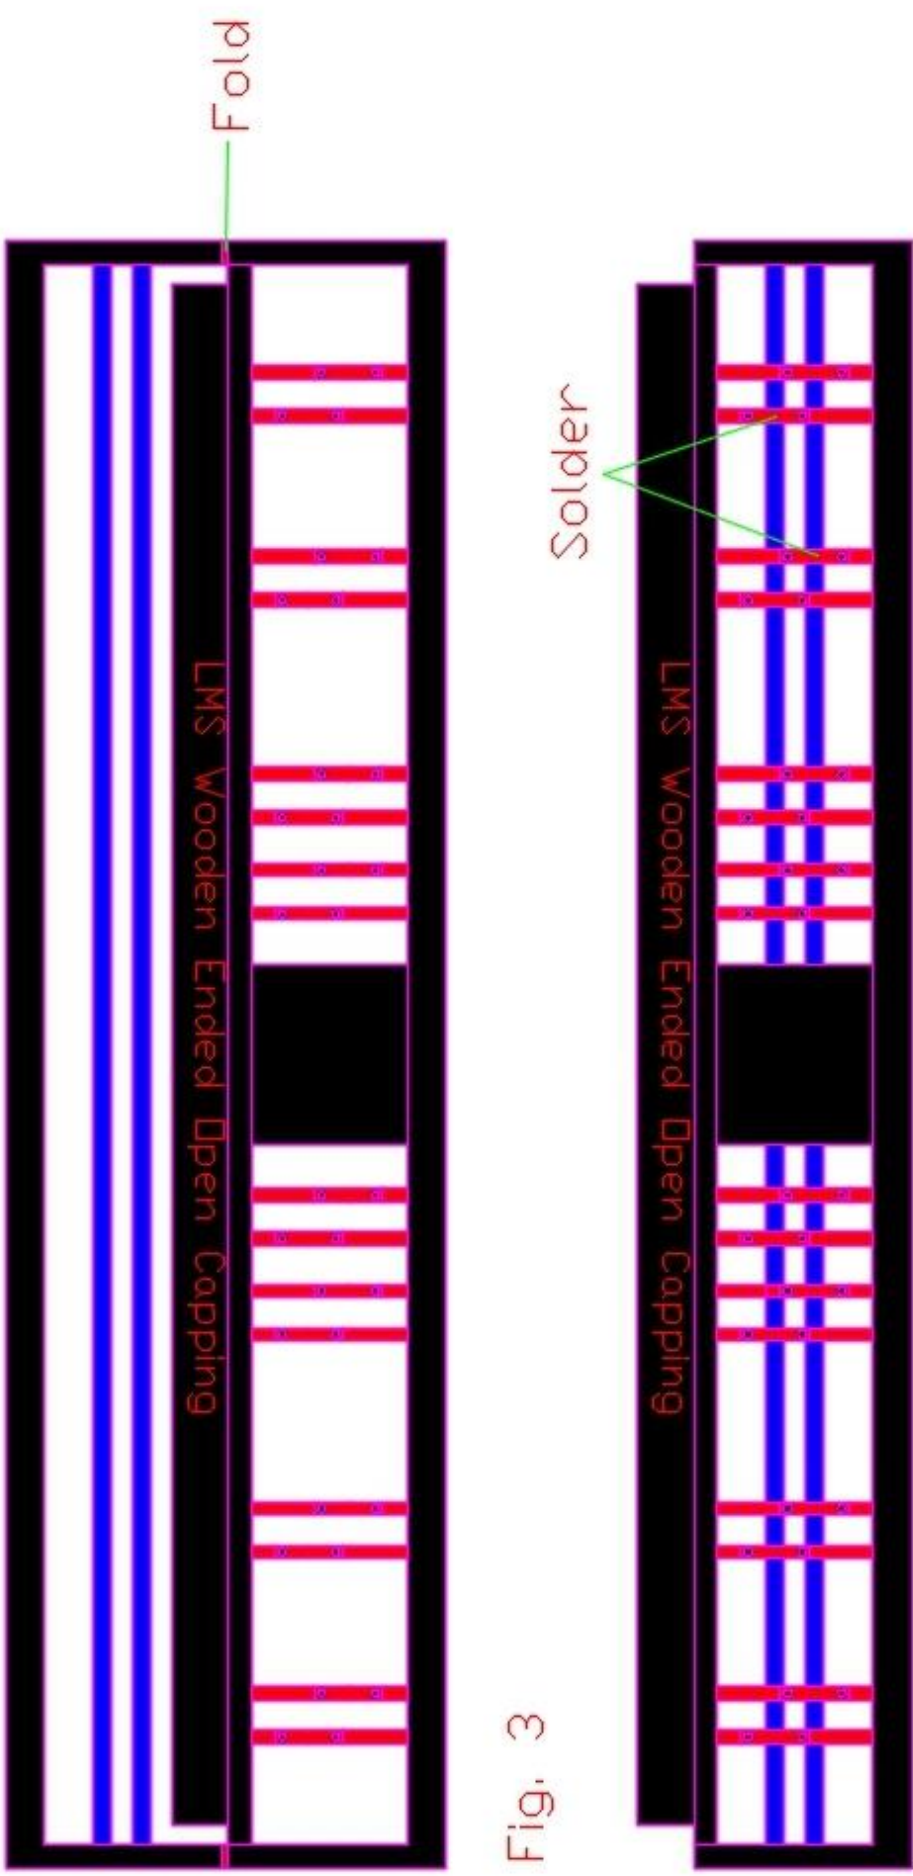

Fig. 3
Finally the capping needs to be fitted in place if required. This wasn't fitted to newly built vehicles but was added later so check your prototype. There is a set for the side (12) and a set for the end (13). Both follow the same principal. The fret is folded through 180° with the fold line on the outside about the lines in the centre of the sides. This will position the long sections in the right place respective to the short perpendicular strips. The short strips have rivets on them. The idea is to solder each point where the long strip sits in between a pair of rivets. I used a tiny amount of solder and a paste flux to stop everything getting soldered solid. Once all the necessary points have been soldered in place the capping pieces can be removed from the fret around the edges and separated. See Fig. 3 above. You should have two near identical parts. The short perpendicular strips can be trimmed on the outside of each rivet. Fold over the short perpendiculars at the point where they meet the long section with a pair of pliers. This can be less than 90°. Fit the capping pieces over the sides and clamp the short perpendiculars to the sides using a pair of pliers to finish the folds. Mark the points where the edges of the centre door are and then cut the capping about these points as well as trimming the ends. If you have left the doors as they are discard the centre section. Glue the capping parts in place. I used superglue. Repeat for the end capping.